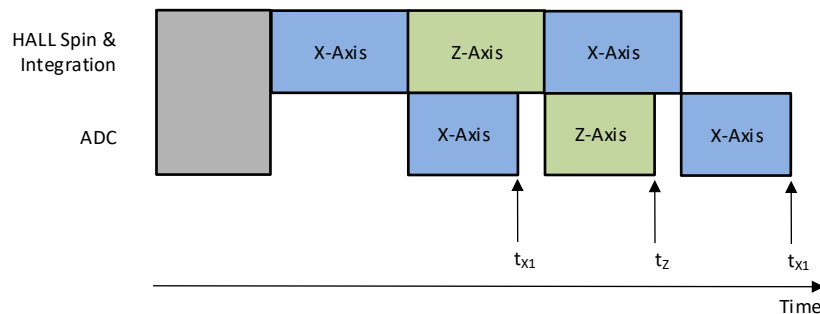

图 8-3. XZX Magnetic Field Conversion
In absolute angle measurement, application sensor data from multiple axes are required to calculate an accurate angle. The magnetic field data collected at different times through the same signal chain introduces error in angle calculation. The TMAG5170 offers pseudo-simultaneous sampling data collection modes to eliminate this error. 图 8-3 shows an example where MAG_CH_EN is set at 1101b to collect XZX data. 式 14 shows that the time stamps for the X and Z sensor data are the same.
- t_{x1} , t_z , t_{x2} are time stamps for X, Z, X sensor data completion as defined in 图 8-3.